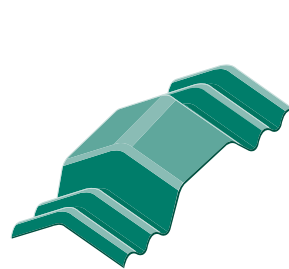

Fig.5 Ventilating cranked crown ridge piece
- ventilating cranked crown ridge: free air area 68,360mm² (Fig.5)